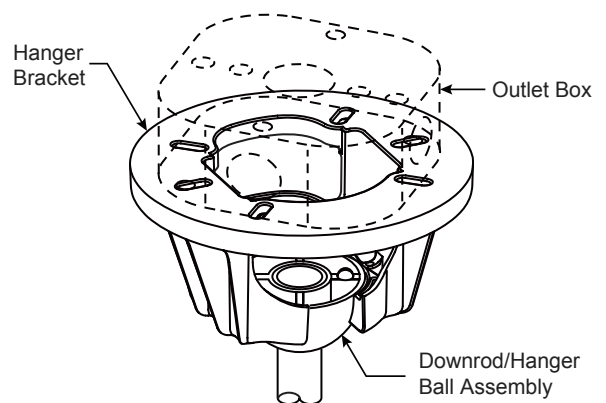

Figure 4
4. Slide downrod into the downrod support on top of the motor. Install the clevis pin by aligning the holes in the downrod support with holes in the downrod. Secure clevis pin with hairpin clip. Tighten the two set screws with nuts in the downrod support. Securely tighten the set screws with screwdriver then fully tighten the nuts by hex wrench. (Figure 4)
3. Carefully lift the fan and seat the downrod/hanger ball assembly onto the hanger bracket that was just attached to the outlet box. (Figure 4) Be sure the groove in the ball is lined up with tab on the hanger bracket. (Figure 3)
3. Connect wires using connectors as shown in Figure 4.
4. Remove the six screws in the motor assembly and retain the screws for reassembly in steps 5 and 6. (Figure 4)
- 4. To make fan operational, install two 3V batteries (included) in hand-held remote transmitter, with fan power off. Then, follow the remote code setting process. If not used for long periods of time, remove battery to prevent damage to transmitter. Store the remote away from excessive heat or humidity. (Figure 4)